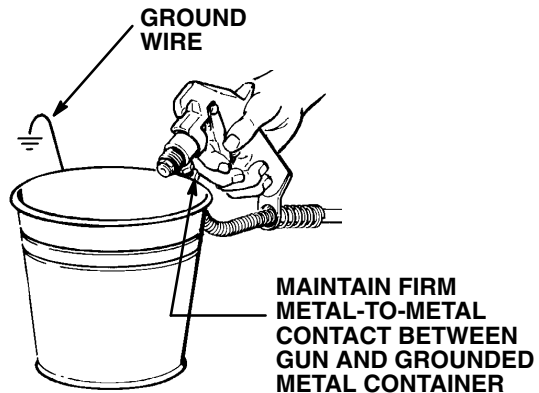

Fig 10-2
- f. Hold a metal part of the gun firmly against a grounded metal pail. See Fig 10-2. Squeeze the trigger, turn the ON/OFF switch to ON, and slowly increase the pressure until the sprayer starts. Keep the gun triggered until all air is forced out of the system and the paint flows freely from the gun. Release the trigger and engage the safety latch.